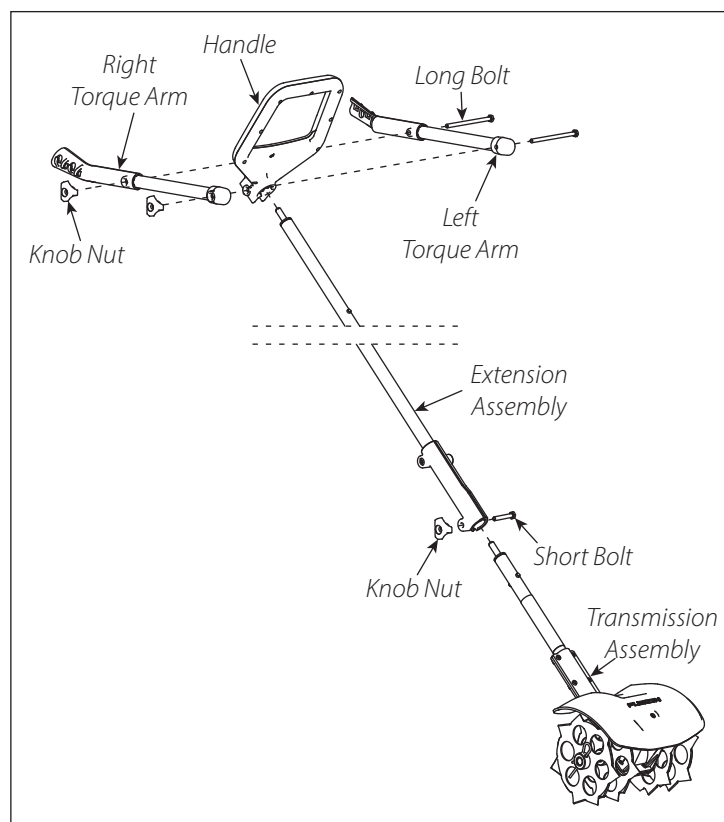

FIGURE 8
2. Remove the left and right torque arms from the handle by loosening and removing two hand knob nuts and two long bolts. **SEE FIGURE 8**
4. Remove the extension from the transmission assembly by loosening and removing the hand knob nut and short bolt. **SEE FIGURE 8**